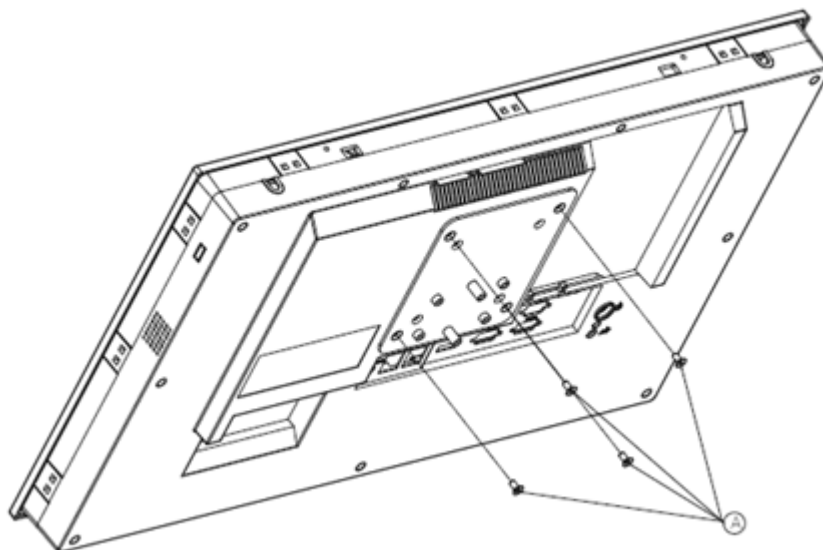

Figure 2.35 VESA mount screw holes
2. Use four M4 x 8L screws to secure the base plate to the mount stand (Figure 2.35).